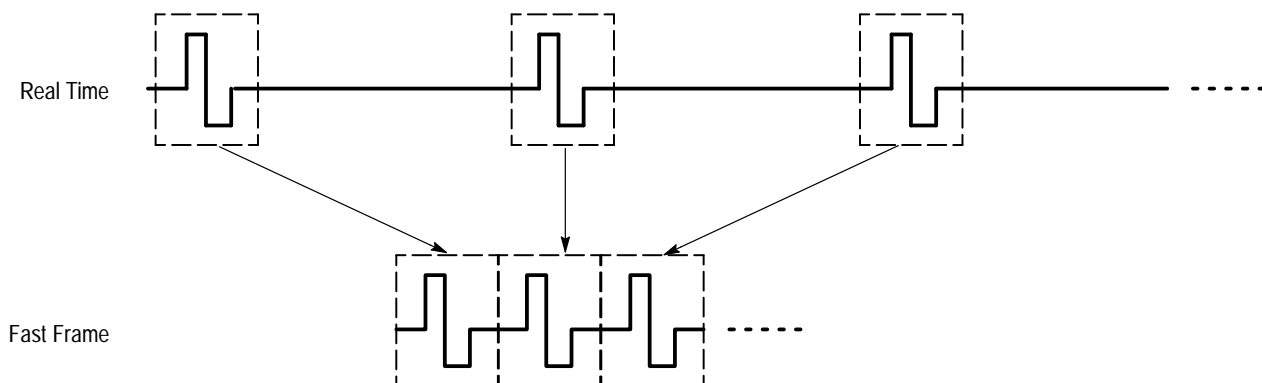

Figure 3–28: Fast Frame
You can define and enable FastFrame (also called segmented memory). This feature lets you capture multiple acquisitions in the acquisition memory of a single channel. Figure 3–28 shows how FastFrame combines the desired captured records into one larger record. For example, FastFrame would let you store 10 records of 500 samples each into one record with a 5000 sample length.
1. Press **HORIZONTAL MENU** → **FastFrame Setup** (main) → **FastFrame** (side) to toggle on or off the use of FastFrame (see Figure 3–29).